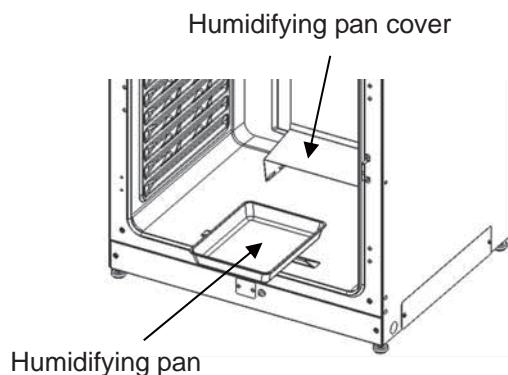

Fig. 1
2. Set up the humidifying pan and humidifying pan cover (Fig. 1).